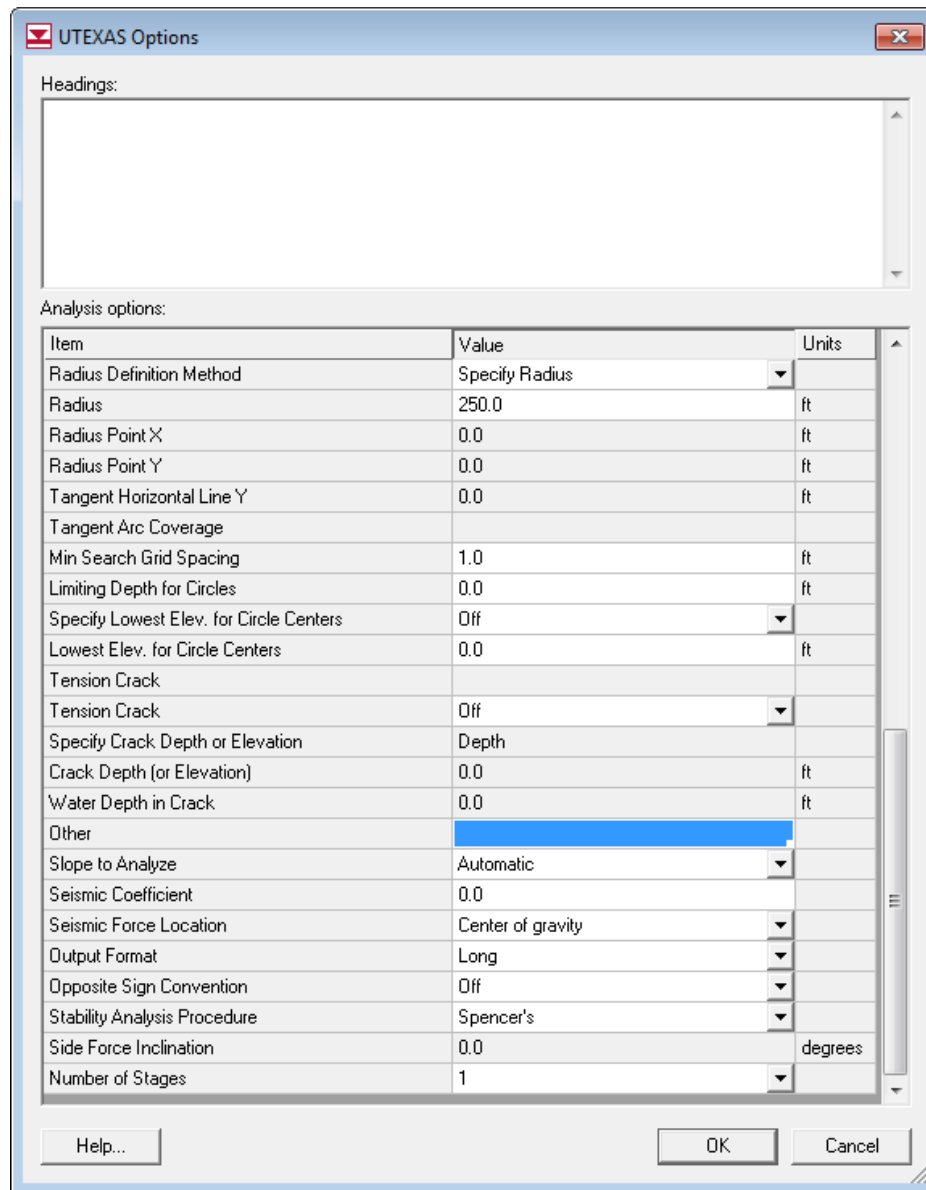

Figure 8. UTEXAS Options dialog.
- The entries should match those shown in Figure 8.